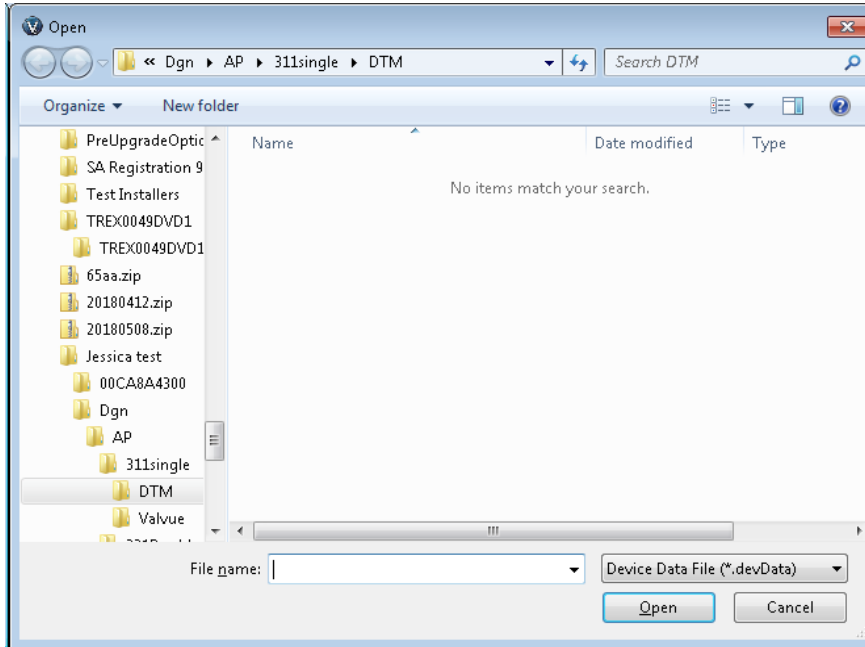

Figure 95 Import Configuration: Open
1. Click **Import Configuration** button and Figure 95 appears.